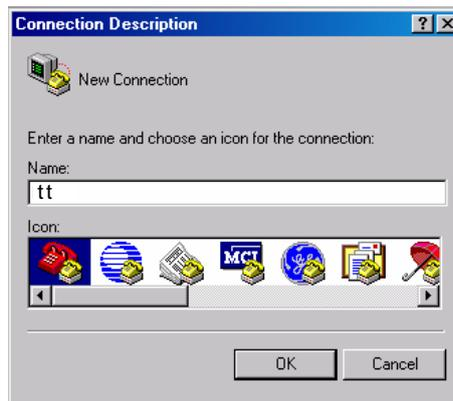

Figure 6-5 Typing the name
1. Click **Start-> Programs -> Accessories -> Communications -> HyperTerminal** to start the HyperTerminal, as shown in Figure 6-5.